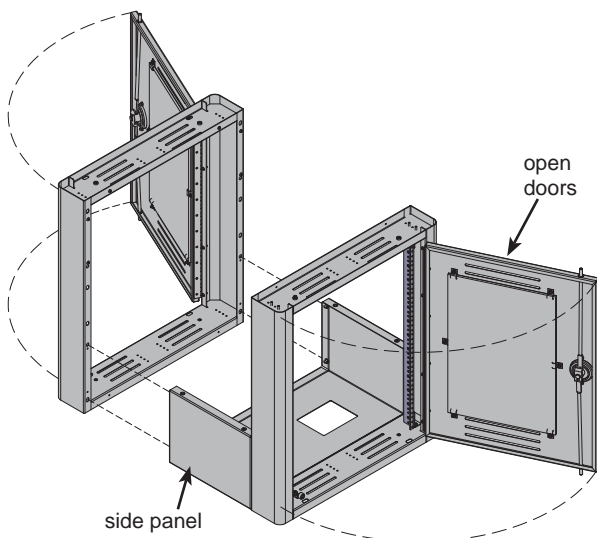

Figure 2A
- A. Open the door on each equipment rack half. **Figure 2A.**